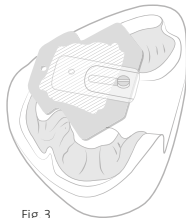

Fig. 3
**12.** Using the CANDULOR Marker provided, generously paint the mandibular registration plate. The templates are then put in and, following the dentist's instructions, the patient traces the angle by anterior, posterior and lateral movement of the mandible (Fig. 3).